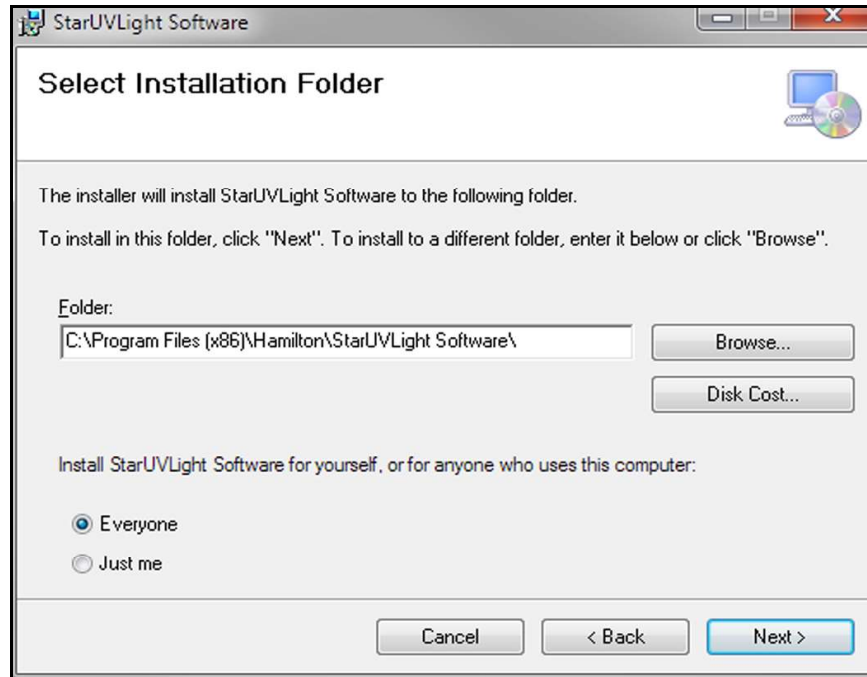

Figure 3-2: Screen 2 of the UV Light software installation
5. A screen allowing the service engineer to select an installation folder. Click the "Next >" button (Figure 3-2).